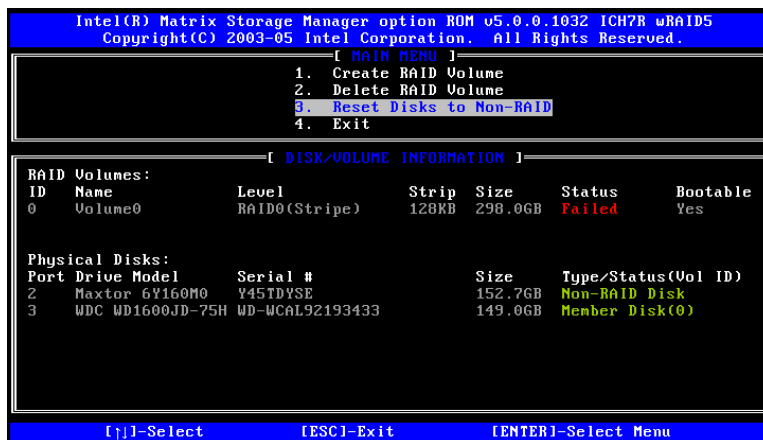

Figure F-15: Disk Drive and RAID Volume Status
**Step 4: Disk Drive and RAID Volume Status.** After the disk drives have been reset, the **Matrix Storage Manager Main** menu is shown indicating the status of the RAID volumes and disk drives. See **Figure F-15**.